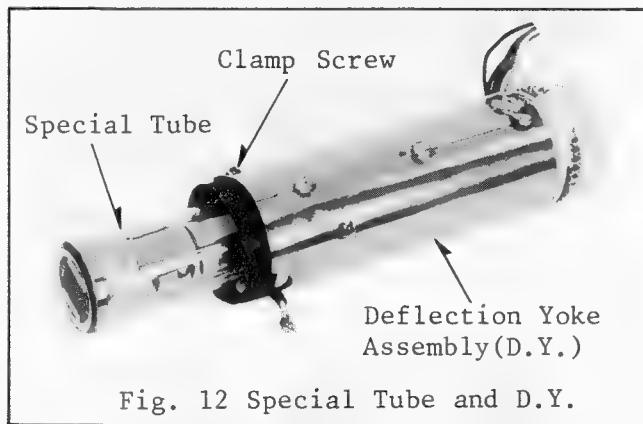

Fig. 12 Special Tube and D.Y.
- 3-9. Loosen the clamp screw and remove the special tube from the deflection yoke assembly (D.Y.) (see Fig. 12).